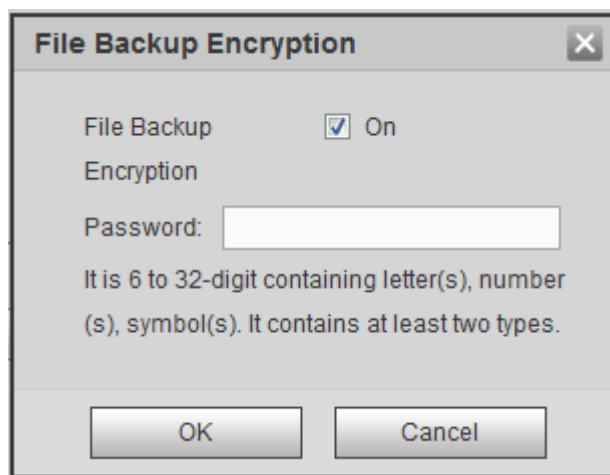

Figure 5-92
- Export B/W list: Click Export and the File Backup Encryption interface is displayed. See Figure 5-92. Enter the password and click OK. Select the save path and click Save.